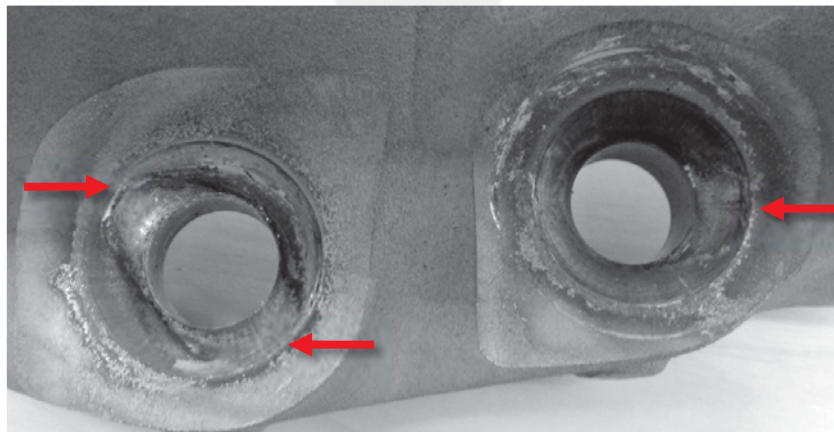

Figure 3
10. Inspect the ball joints and seating surfaces on the knuckles for shiny, oval-shaped wear marks. Examples of damage to the knuckle seating surfaces are shown in Figure 3.